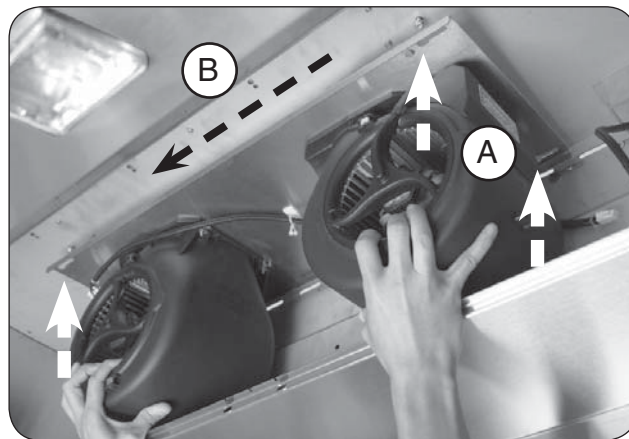

Fig. 16-1 Insert fan assembly
1. Locate the (4) nuts pre-installed to the ceiling of the vent hood, and using a $\frac{3}{8}$ " nut driver, loosen (but do not remove) to allow for the fan assembly to be inserted. See Fig. 16-1.
2. With the open ends of the fans facing the front of the vent hood, carefully position the fan assembly, aligning the keyholes to the loosened nuts. See Fig. 16-1, A.
3. Mount the fan assembly flush against the vent hood ceiling ensuring the nuts protrude through the keyholes, then slide the assembly to the left so that it hangs from the nuts. See Fig. 16-1, A and B.